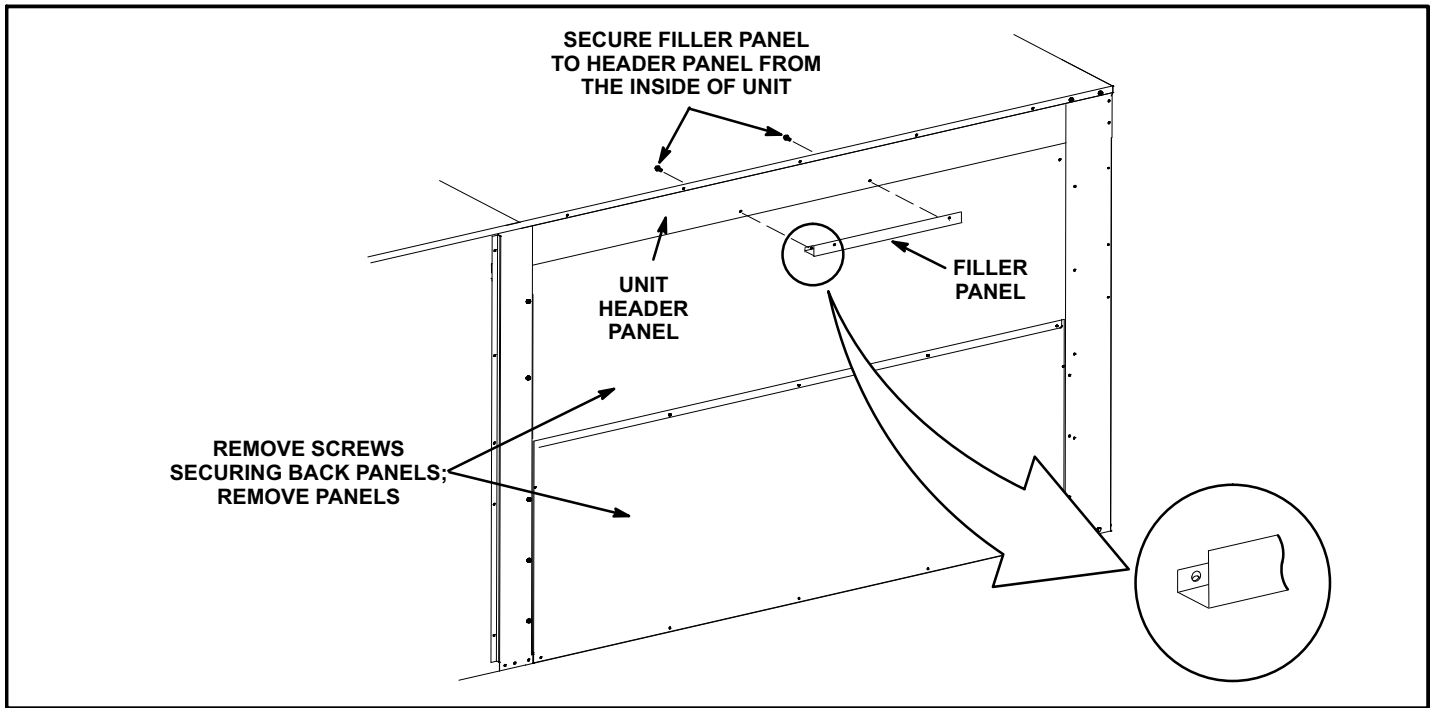

FIGURE 3
- 2- Secure filler panel to header. See figure 3.